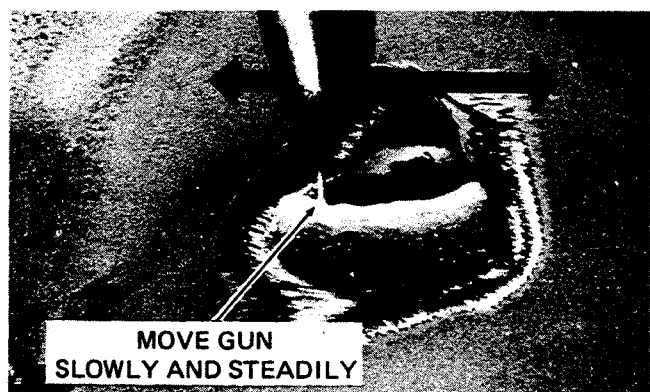

Figure 32
4. Keeping a firm grip on the gun, touch the work with the wire as trigger is pressed. The wire will be transferred in **plastic-like molten state**. Fill the desired area by constantly moving the gun back and forth over the fill area. See Figure 32